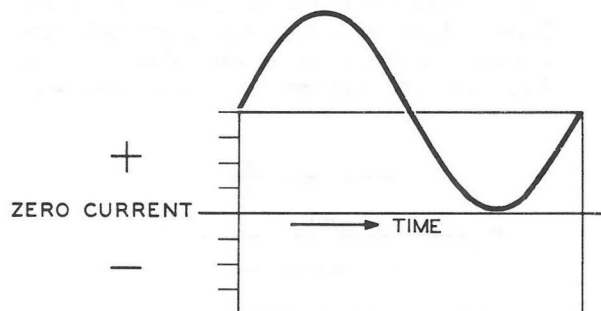
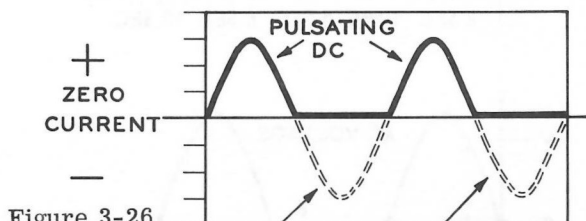
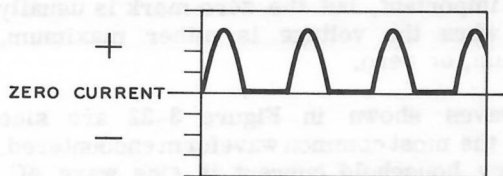

Figure 3-25
Figure 3-26
Figure 3-27
PDC or pulsating direct current is direct current that varies periodically in amplitude. (See Figure 3-25.) To put it another way, PDC always flows in the same direction, just like DC current, but is changing in amount, just like AC current. PDC operates in cycles, and has a frequency, but this frequency refers only to how
often the current changes in amount, and has nothing to do with any change in the direction of current flow. Notice that although the PDC current of Figure 3-25 rises and declines in amount, it stays above the zero-current line, showing that the current always flows in only one direction.
The most common example of PDC current looks somewhat different than that shown in the graph of Figure 3-25. This is because the PDC normally encountered in electronics is the one-way current left after AC current has been rectified. Rectification is the process of passing current through a device that will conduct current in only one direction. You will learn more about this process later. It is enough at this time to say that if a two-way current (AC) is fed to a one-way current device, half of the current will be blocked. The PDC that remains after rectifying an AC current is graphed in Figure 3-26. A rectifier will pass current in only one direction, so one half, or the other (plus or minus) of the AC current is blocked, and a pulsating DC current remains. When more cycles are involved the result would appear as in Figure 3-27.